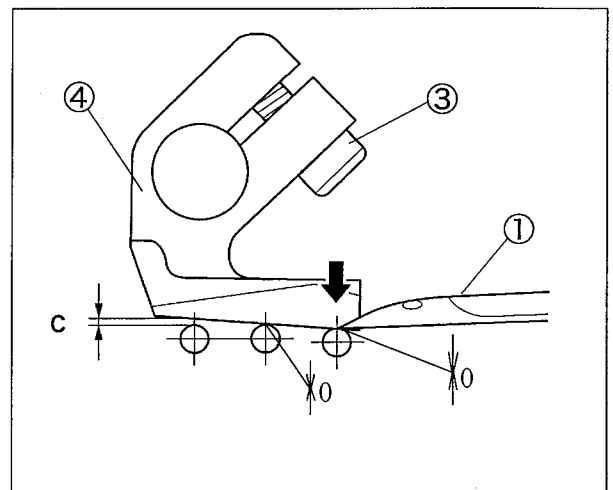

Fig. 6-23
- (1) When the looper ① moves from the right to the left, and the looper ① tip meets the right needle, let the needle guard(rear)④ push the right needle so that the clearance between the right needle and the looper ① is 0.
- (2) When the looper ① tip meets the middle needle, adjust the angle of the needle guard (rear)④ so that the clearance between the middle needle and the looper ① is 0.
- (3) When the looper ① tip meets the left needle ②, even if the left needle ② is pressed, the needle guard(rear)④ holds the left needle ② without touching the looper ① tip. (Fig. 6-23)